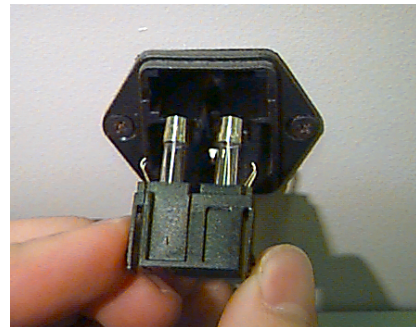

Figure 6-12
3. When the cover is unclipped, pull on the cover to remove the fuse holder (see Figure 6-12).